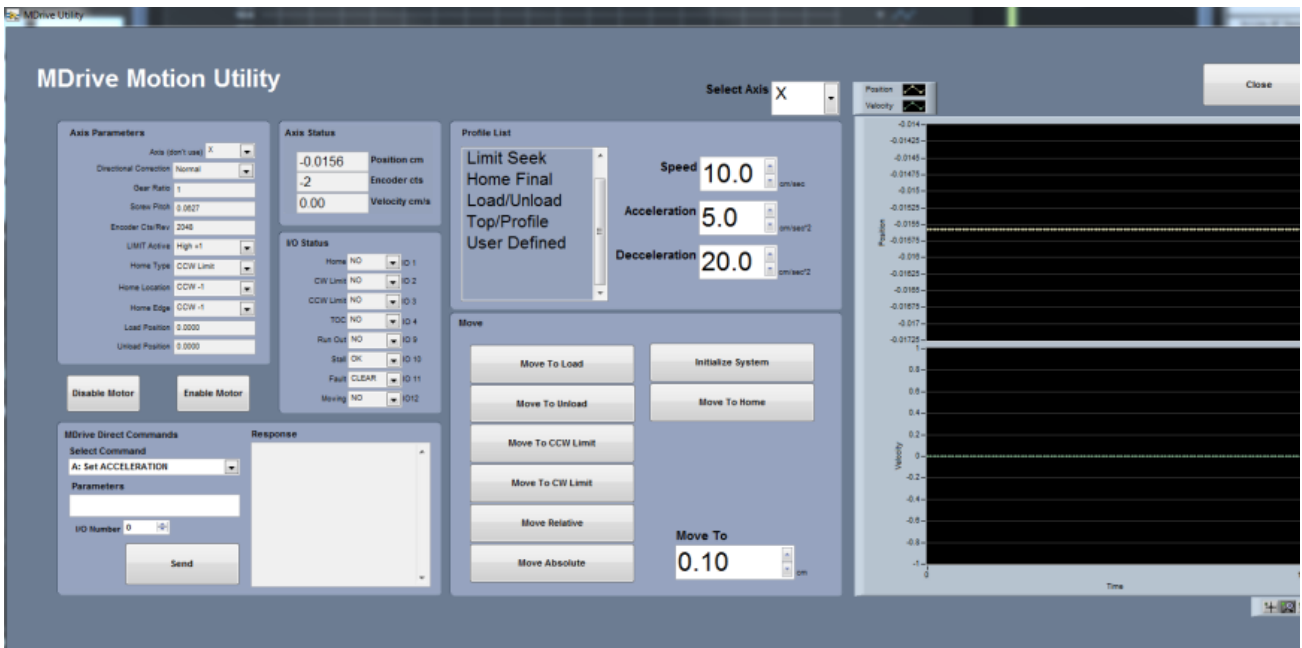

Figure 23. Motion Utilities window
- Click the **Motion Utility** to open the Motion Utility window (Figure 23) and test the settings. Click **Close Utility** to exit this window.
- **Track Length:** Distance in cm between the limit switches. Use the **MDrive Motion Utility** (Figure 23) to determine this value by moving from limit switch to limit switch plus the length of the tray used.